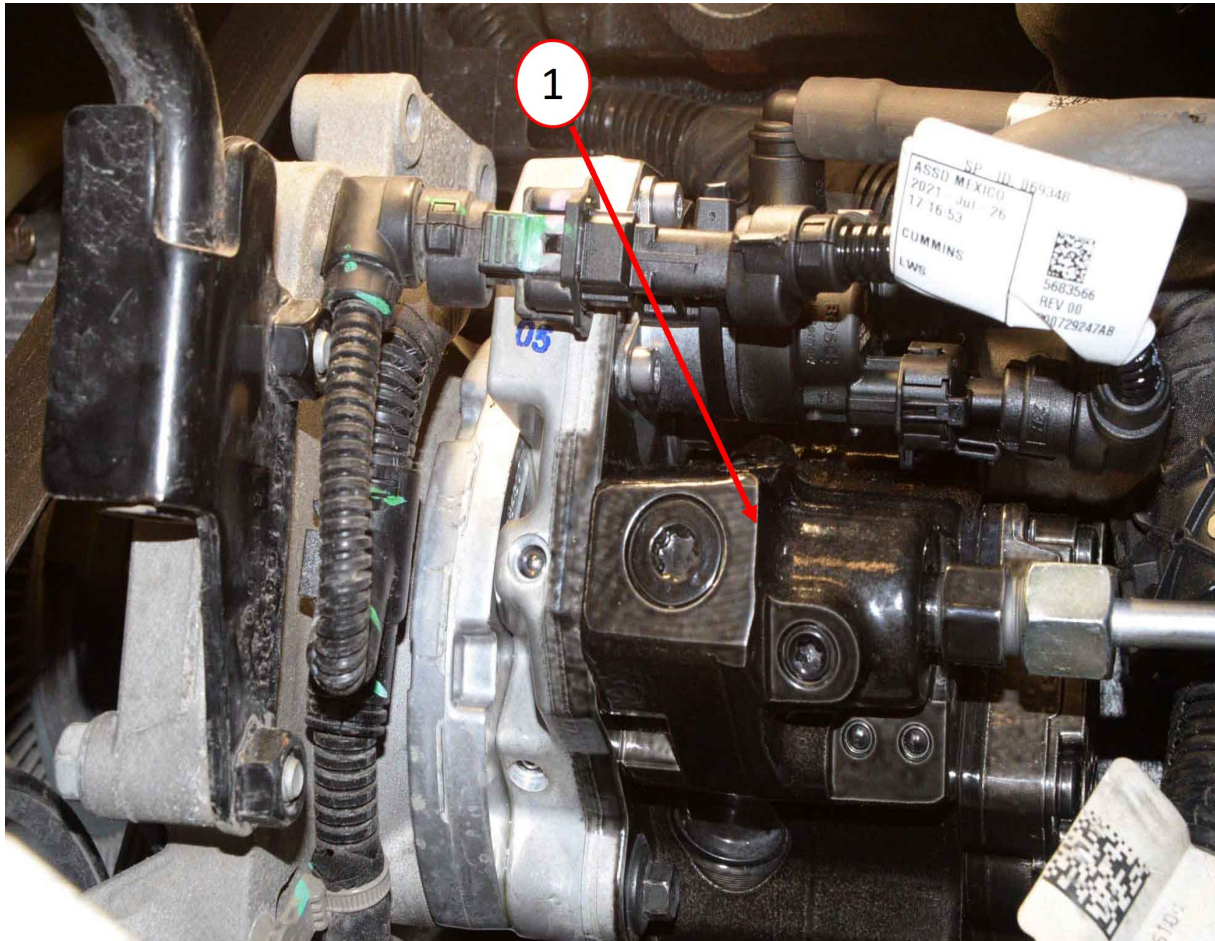

Fig. 1
NOTE: **The only calibration available will be for the updated CP3.3 design High-Pressure Fuel Injection Pump (Fig. 1) . Please ensure that recall Y78 has been completed first before proceeding with this update.
1. Inspect the High-Pressure Fuel Injection Pump to see which pump is currently installed on the vehicle (Fig. 1) . Also review the vehicle VIP report to see if campaign Y78 has been performed.